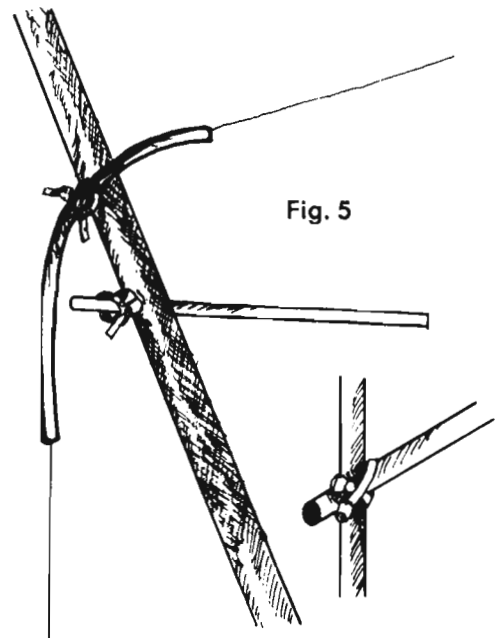

Fig. 5
Take the spool of wire marked "10MR" attach one end to the stub with the short loop and thread the wire through the four nylon tubes (Fig. 5) closest to the spider, attaching the other end of this wire to the opposite end of the stub.
STEP 6: CONNECT THE RODS TO UPPER ARMS (Fig. 5)
The four 1/4" tie rods, 80 inches long and coded yellow, must now be connected to the yellow marks on the upper arms. Connect the tie rods to the arms using the nylon straps, two per point of attachment, as supplied for the tension tubes. Let the rods hang down vertically at this time. These rods are an important part of the design strength of the GEM QUAD. It is, therefore, wise to make sure that the rod protrudes through the nylon strap at least 1-1/2 inches and that it is gripped very firmly in the straps. (See Fig. 5). Drilling a small hole at each end of the tie rod and inserting a cotter pin is a good insurance that it will not slip off, a necessity in high wind areas.
The tie rods must now be connected to the four lower arms in the same manner as Step 6. (see Fig. 5). This adjustment will give strength to the assembly and keep the wire elements in a state of tension. Tie rods should also be adjusted to give a slight "bow" to the tips of the arms.